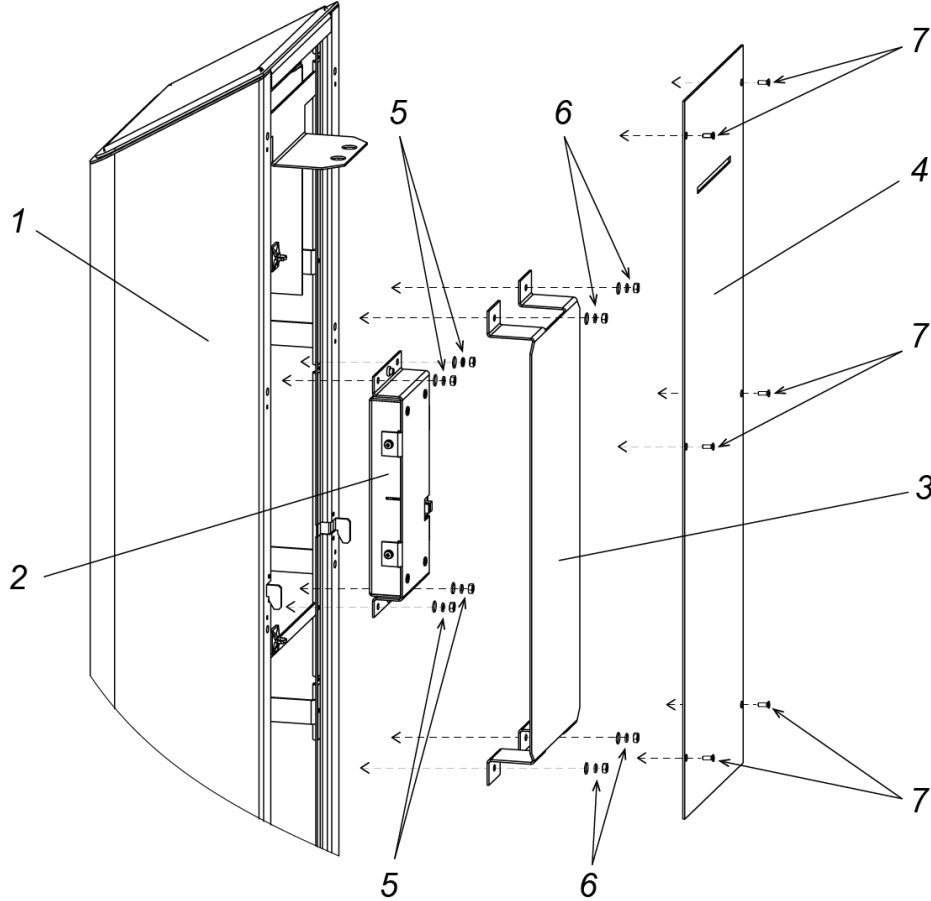

**Figure 18. TTD-12A turnstile housing installation layout**
2. Mark and drill holes for anchor bolt sleeves to fix the turnstile housing (see Fig. 18).